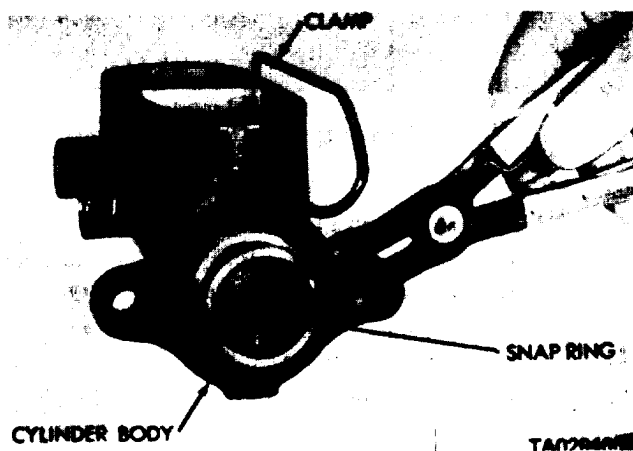

Figure 22-4. Removing Snapping.
- (4) Slide the clamp off the cover and remove the cover and gasket, then drain the brake fluid from the cylinder.
- (5) Remove the snapping from the open end of the cylinder, using snapping pliers (figure 22-4).